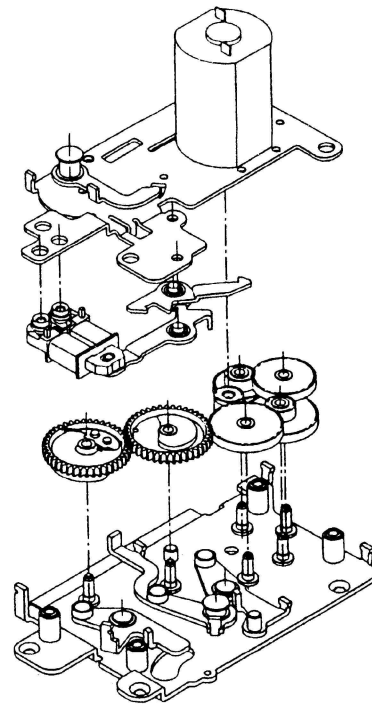

Fig.4 Mirror Drive and Aperture Control Unit
### (3) Mirror Drive and Aperture Control Mechanism (Fig.4)